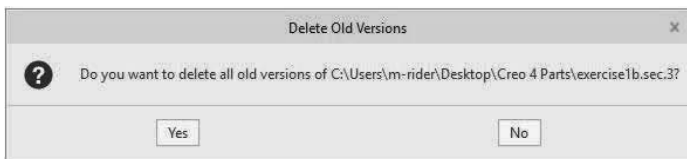

Figure 3-67 Accept Command Actions
**Step 34:** *Pick Yes* to remove all previously saved versions of this file in your working directory (Figure 3-67).